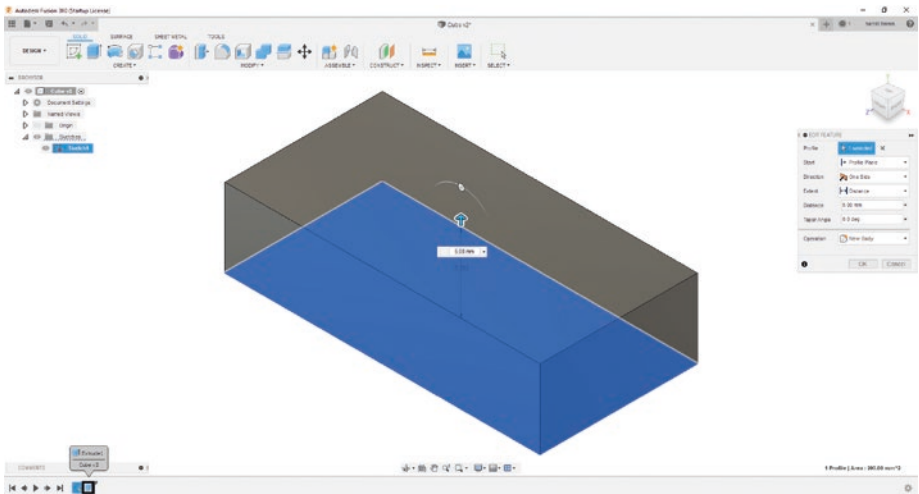

Figure 3-57. Select the Extrude1 in the Design History Bar
7. Now double-click the Extrude1 icon in the History Bar at the bottom of the screen. See Figure 3-57.